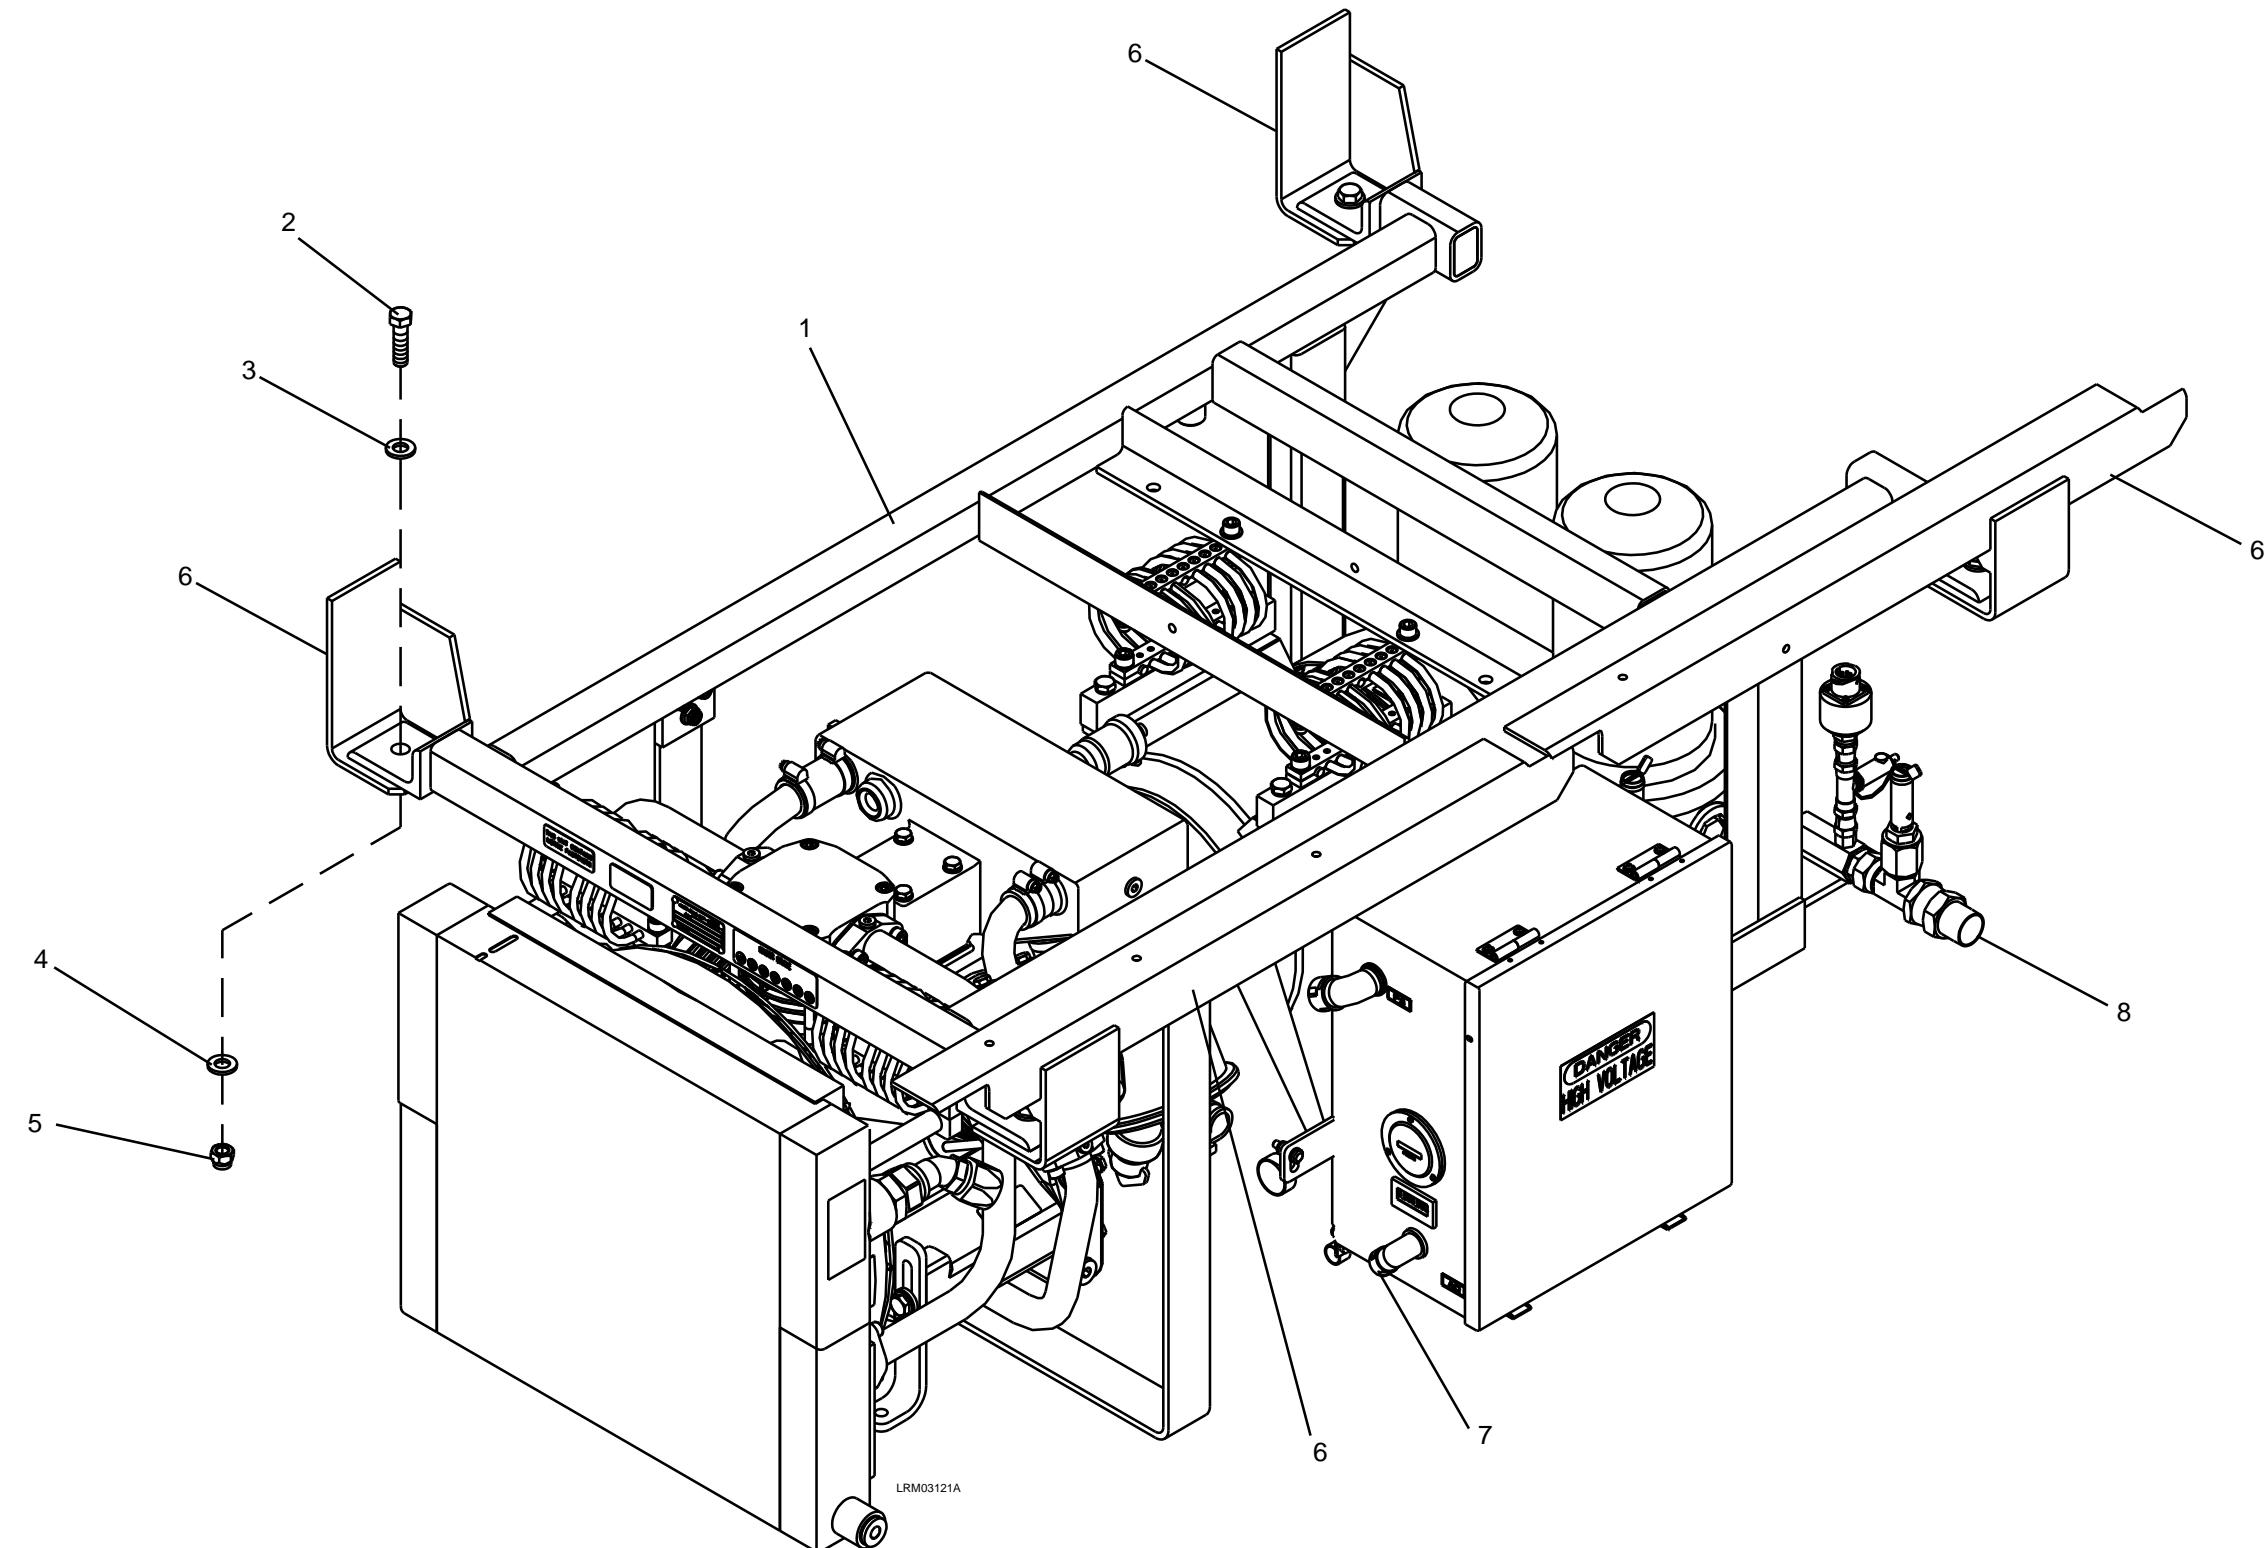

Figure 7-107: Air Compressor
2. Disconnect the electrical connectors (7) from the Air Compressor (1). See Figure 7-107.
3. Open cutout cock and drain the air supply to the Main Reservoir (1).
4. Carefully disconnect the fitting (8) from the Air Compressor (1).
5. Remove the four M12 ESNA nuts (5) and M12 plain washers (4), M12 x 45 bolts (2), and M12 plain washers (3).
6. Carefully remove the Air Compressor (1) from the mounting bracket (6).